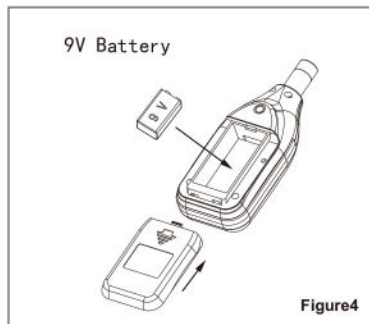

Figure4
3. When Low battery mark "E" appears, please replaced with a new 9V battery. (Figure 4)